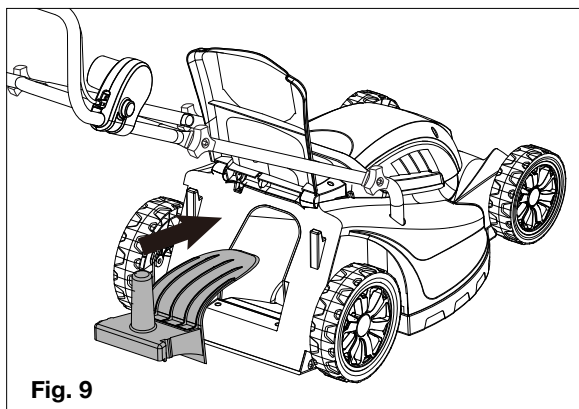

Fig. 9
- b) Loosen the knobs, then fold the handles. (Fig. 9)
- Loosen the handle knobs, pull outwards on each side of the lower handle, and lift the sides of the lower handle past the edges of the handle mounting brackets. Fold the lower handle forward. Make sure not to bend or kink the power cord. (Fig. 9)